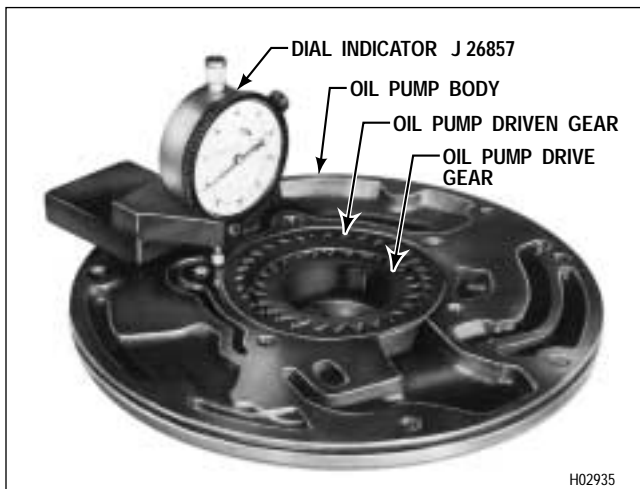

Figure 6-28. Zero Dial Indicator on Oil Pump Body Surface
(1) Position oil pump body assembly 6, flat side upward. Install drive gear 10 into pump body assembly 6, so the internal tangs of the gear are facing upward. Install gear 9 into the pump body 6 so that the side of gear 9 marked with a diamond is downward.
(2) Position dial indicator J 26857 on the pump body as shown in Figure 6-28. Zero the dial while the stylus (plunger) is contacting the pump body face.